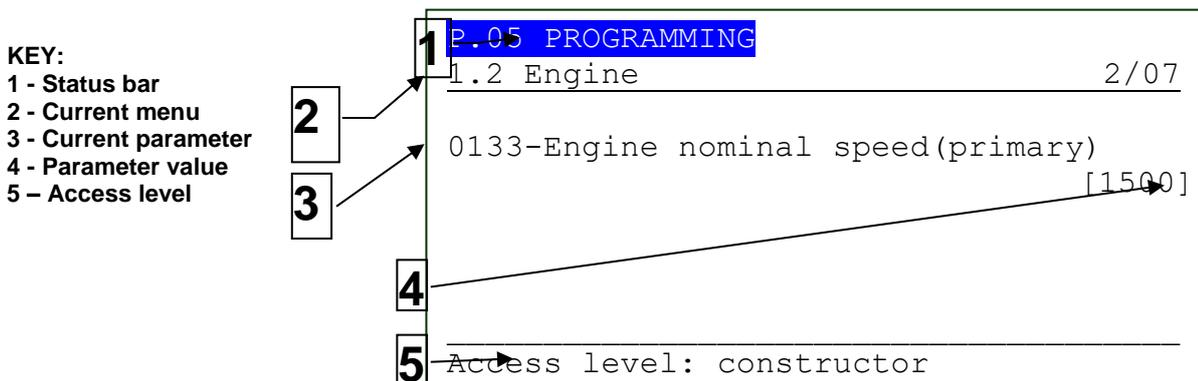

Fig. 6 - Display areas
The first line under the top status bar identifies the current menu (2) with the menu number and the relevant text. A pair of numbers is displayed on the right of this line (2/07 in the example in fig. 6). The first indicates which entry of the menu is selected or which page is displayed, the second indicates how many entries or pages can be displayed in the present menu/submenu.